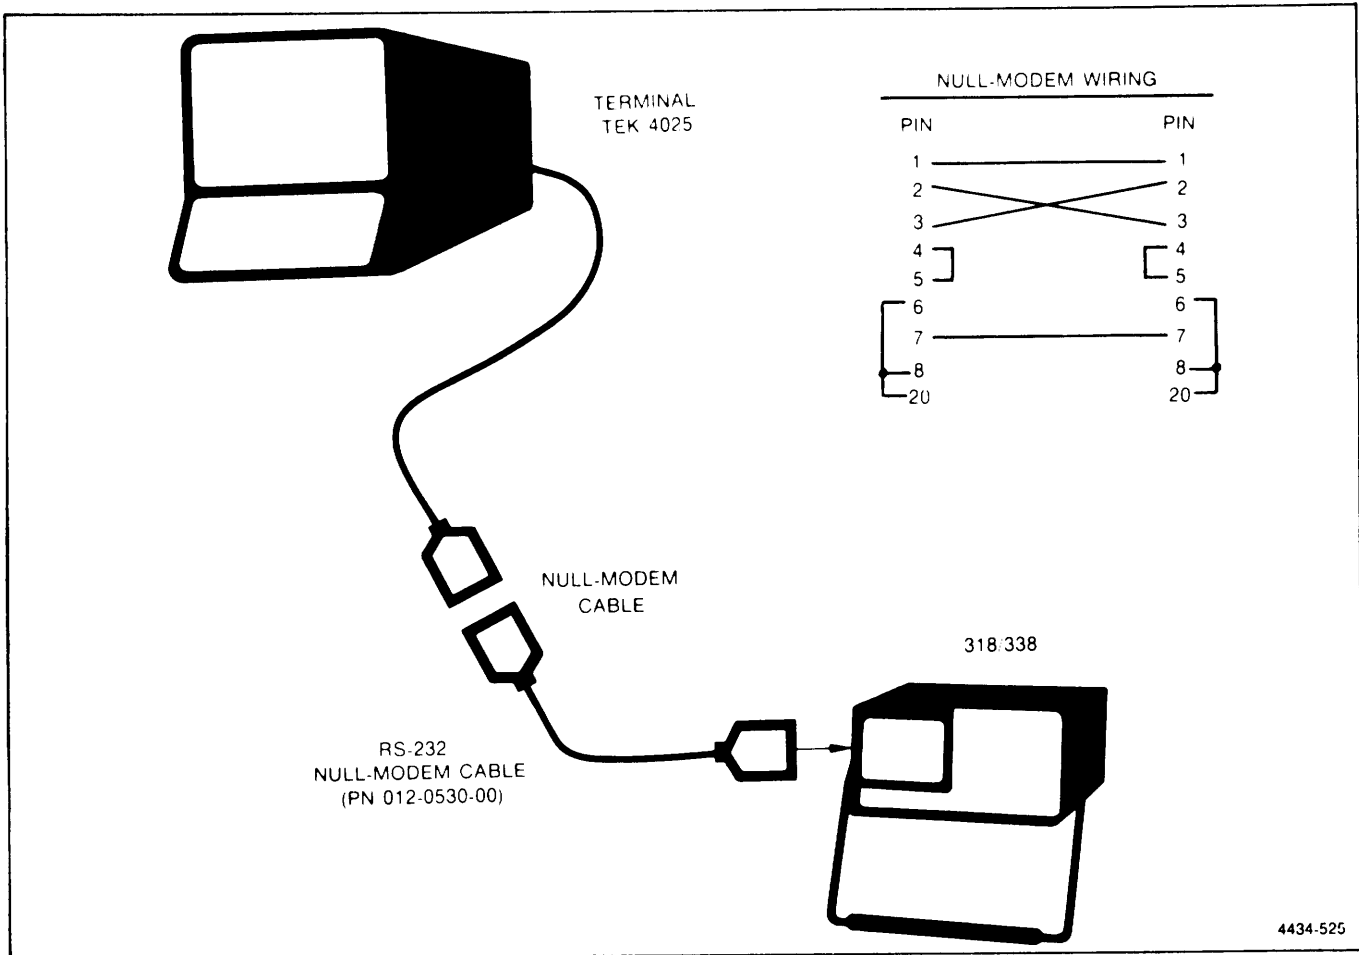

Figure 5-45. 338 Setup for RS-232C control.
- a. Connect the test setup as shown in Figure 5-45.